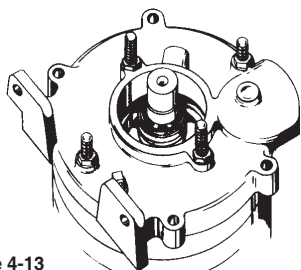

Figure 4-13
22. The seal rotating element can now be installed. (refer to figure 4-13) One and two stage pumps position both seals (#12) by a shoulder on the shaft. Three and four stage pumps locate the rear seal (#13) by means of a drive collar (#14). The seal rotating element, when lubricated, must be allowed to move freely on the shaft. This will enable the seal to seek a hydraulic balance upon operation.